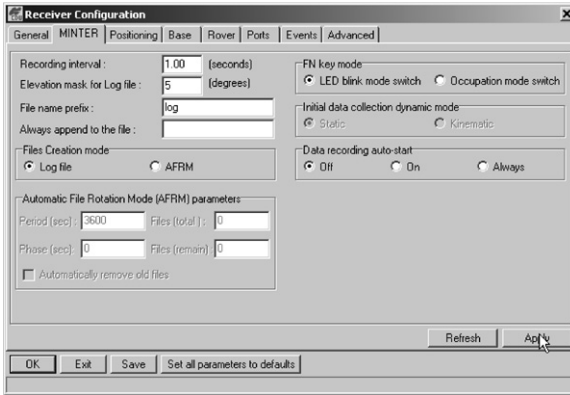

Figure 3-3. Configuration->Receiver->MINTER
2. Using PC-CDU, click **Configuration->Receiver ->MINTER** and specify the following parameters, or specify parameters according to your particular job, then click **Apply** (Figure 3-3 on page 3-9):